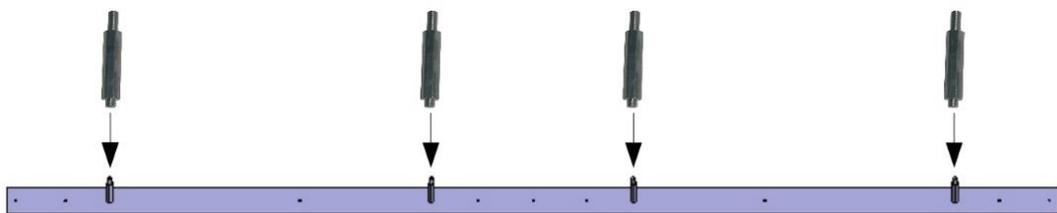

Figure 4 Assembly of U-profiles A
1. Screw in four spacer bolts into four U-profiles as illustrated in Figure 4. The longer threaded end must point upwards. Tighten the bolts only by hand!